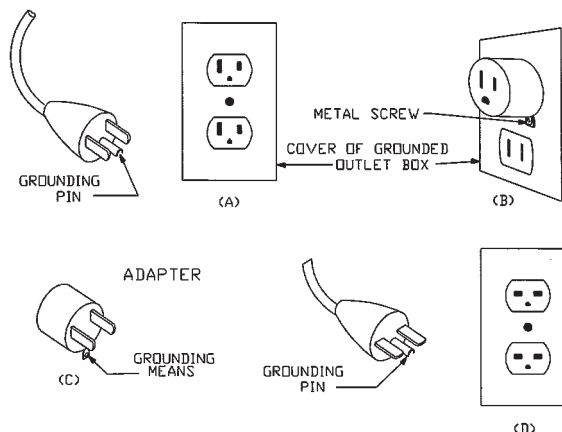

Figure 82.1
- This machine is intended for use on a circuit that has an outlet that looks like the one illustrated in Sketch A in Figure 82.1. The tool has a grounding plug that looks like the plug illustrated in Sketch A in Figure 82.1. A temporary adapter, which looks like the adapter illustrated in Sketches Band C, may be used to connect this plug to a 2-pole receptacle as shown in Sketch B if a properly grounded outlet is not available. The temporary adapter should be used only until a properly grounded outlet can be installed by a qualified electrician. The green-colored rigid ear, lug, and the like, extending from the adapter must be connected to a permanent ground such as a properly grounded outlet box.